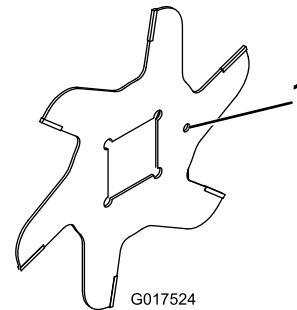

Figure 15
1. Assemble a blade (Figure 15).
4. Install the next blade clockwise so that the index reference hole (Figure 15) is not aligned with the first blade hole by one flat of the shaft.